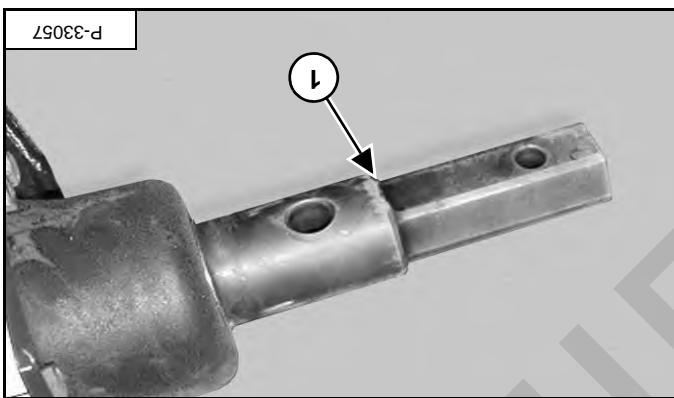

Figure 8
NOTE: The model 15C and 30C auger are equipped with a drive shaft (item 1) [Figure 8] that will accept either the round or the hex drive auger bits.